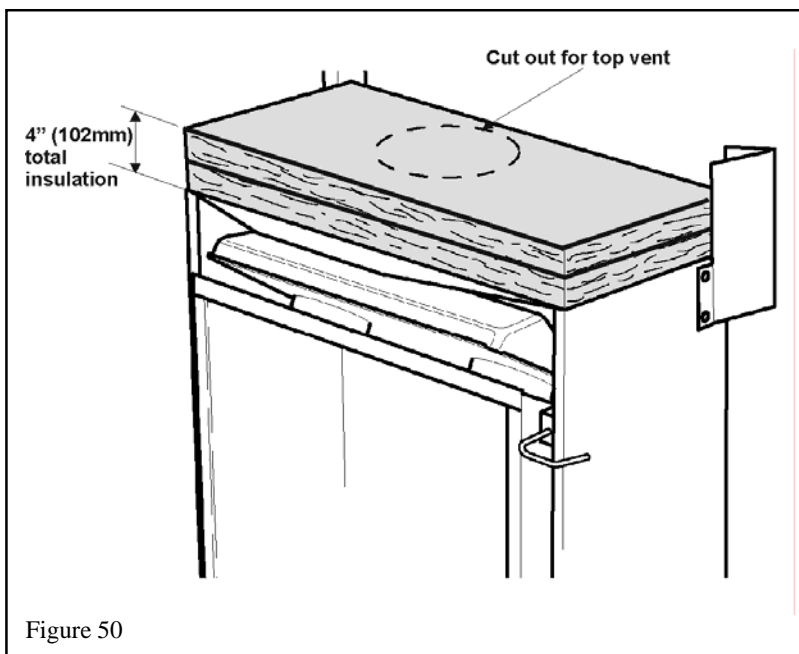

Figure 50
2. Place both the insulation layers on top of the appliance case inboard of the stand-off spacers. See figure 50.